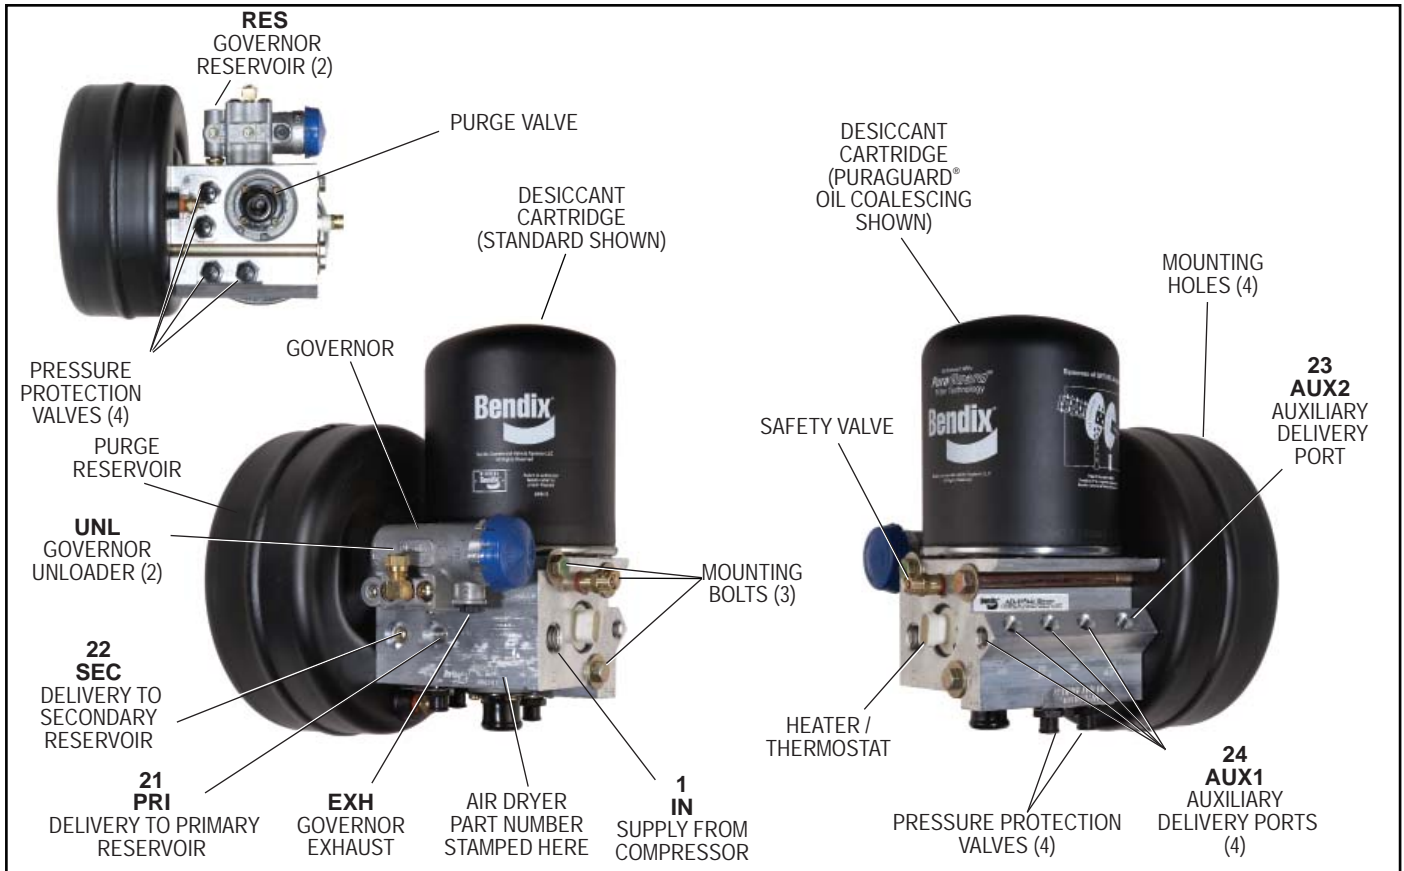

FIGURE 1 - BENDIX® AD-IS® AND AD-IS® PURAGUARD® OIL COALESCING AIR DRYER AND RESERVOIR SYSTEMS
3. Check the AD-IS® air dryer and purge reservoir bolts for tightness. See Figure 1. Re-torque the three air dryer bolts to 360–420 in-lbs and the four purge reservoir bolts to 300–360 in-lbs.